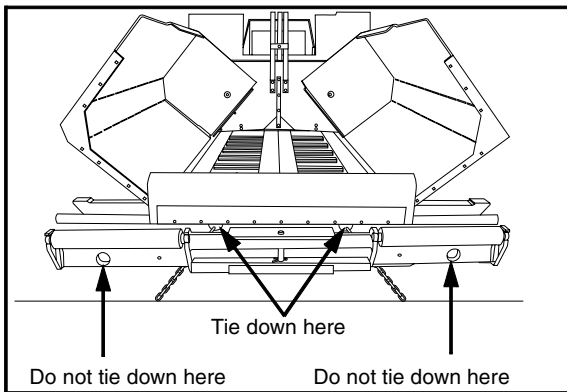
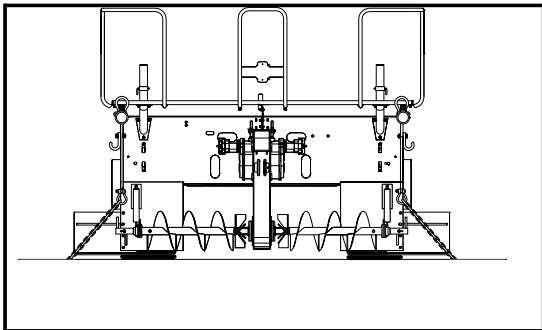

Figure 60. Front tie down points
Figure 61. Rear tie down points
- 4) Use chains and chain binders to tie the paver down in the front (Figure 60) and rear (Figure 61) of the paver.